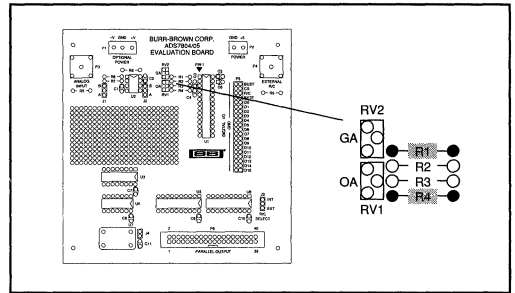

FIGURE 8. Factory Settings for Step 3.
A) To adjust offset, install RV1 (50k Ω) and R3 (33.2k Ω), ground the input, then adjust RV1. See Figure 8 for location of RV1 and R3.
B) To adjust gain, install RV2 (50k Ω) and R2 (576k Ω), then adjust RV2. Do this for +10V and -10V. See Figure 8.